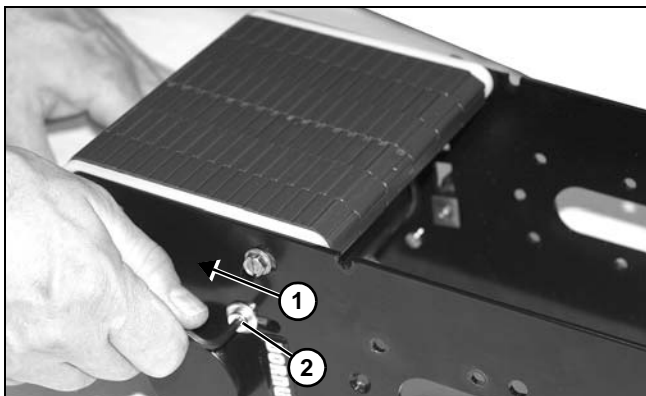

Figure 140
8. Slide assembly (**Figure 140, item 1**) within slot to remove excess slack from belt, and tighten socket head screw (**Figure 140, item 2**).